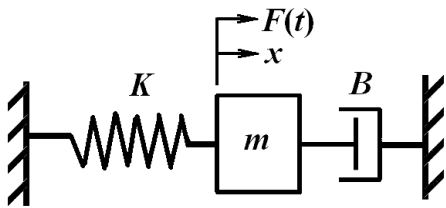

Figure 3, Q.3 (a)
- Q.3** (a) Derive the differential equation for the mechanical system shown in Figure 3. **03**